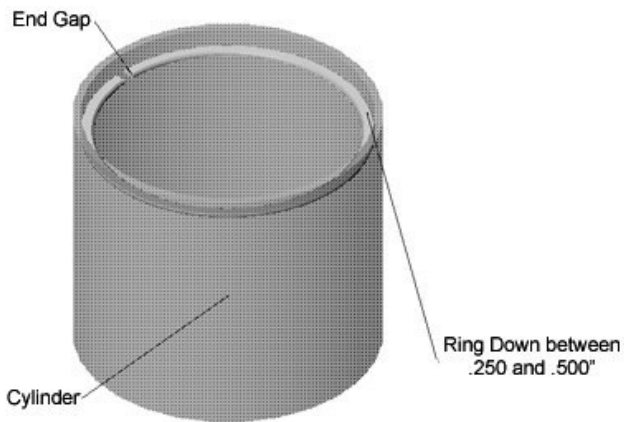

Figure 1
2. Piston ring should be below and square to the deck. (Figure 1)